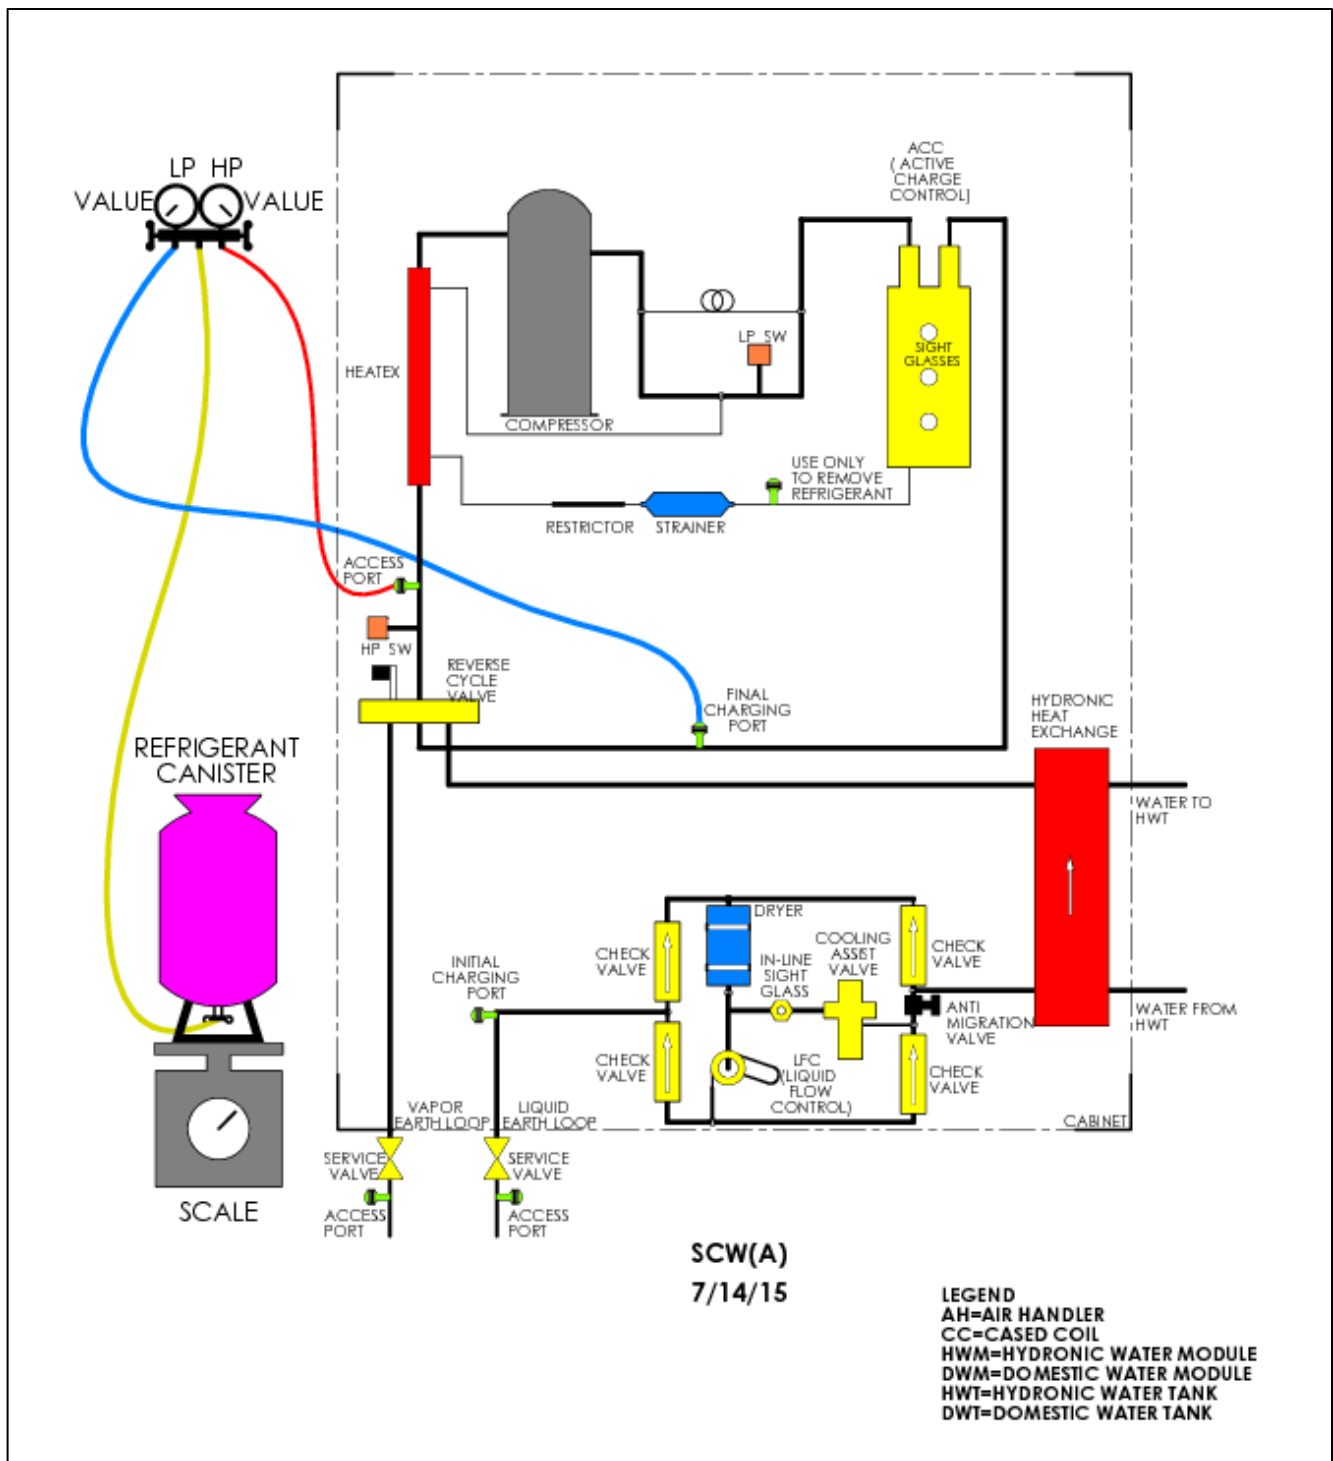

Figure 26. Final Charge of SCW(A) System
2. Crack open the LP valve on the manifold gage set so that a small amount of refrigerant gas flows to purge the hose. Connect the hose to the final charging port, shown in Figure 26. Tighten the hose to the final charging port and turn off the LP valve when the hose connection is secure.
7. With the liquid refrigerant level at the middle sight glass, attach and insulate a temperature clamp or probe securely to the earth loop vapor line at the compressor unit service valve shown in Figure 26. Read the measured temperature. Also read the LP gage pressure on the manifold gage set. Use a pressure/temperature chart (Figure 32) to verify that the system is operating at saturation, meaning that no superheat is measured on the earth loop vapor line. To verify this, the measured vapor line temperature should be within $\pm 3^{\circ}\text{F}$ of the saturation temperature read from the chart for the measured LP gage pressure. If the measured temperature is out of this range, contact ETI technical support at 1/863-701-0096.